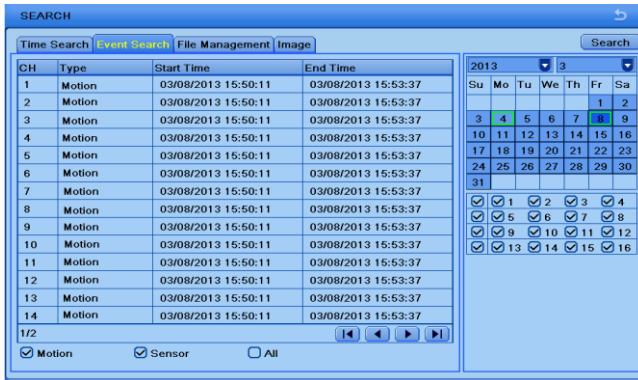

Fig 5-2 Search Configuration-Event Search
- ① Go to Main Menu→Search→Event Search button. Refer to Fig 5-2.